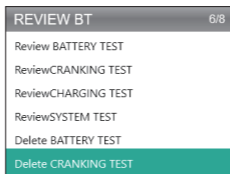

Figure 5.1.4
4. Select Review BT and press [OK]. Eight options will appear on screen (See Figure 5.1.4) - including reviewing battery tests, cranking tests, charging tests, and system test results.